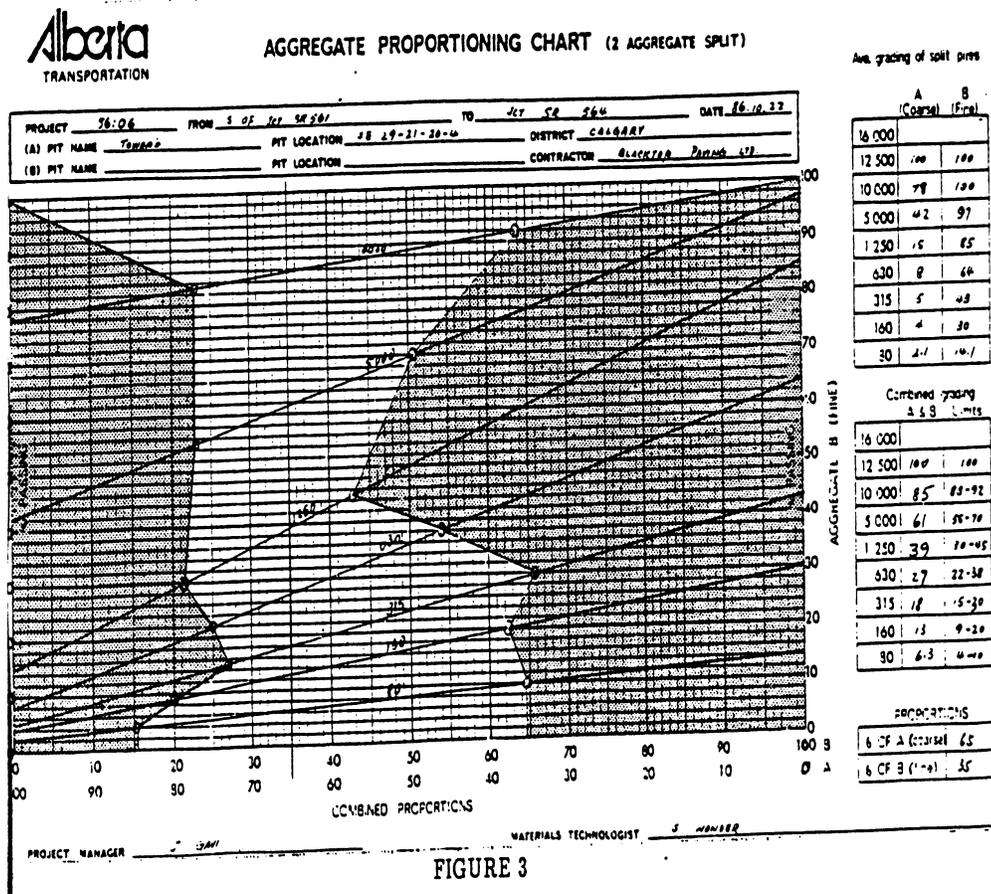

FIGURE 3
9. Use the scale of the combined proportions shown at the bottom of the chart and draw a vertical line through the chart at the given proportions. An example is shown in Figure 3.